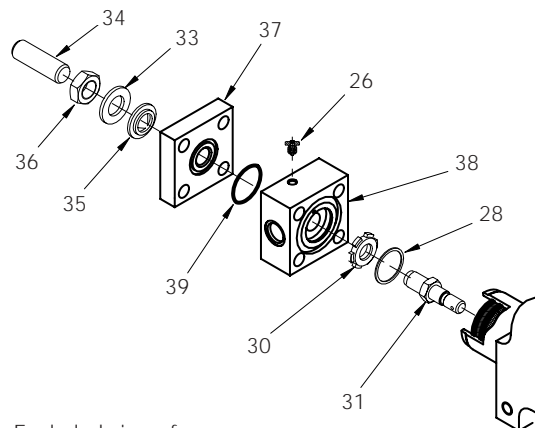

Fig. 5 Exploded view of combined cushion and stroke adjuster
**Adjustment of Combined Stroke Adjuster and Cushion Fig. 5**